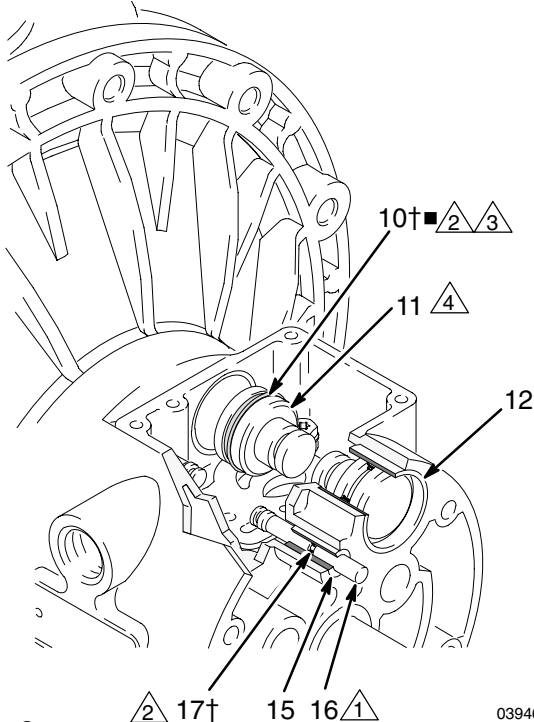

Fig. 8
4. Pull the two actuator pistons (11) out of the bearings (12). Remove the u-cup packings (10) from the pistons. Pull the pilot pins (16) out of the bearings (15). Remove the o-rings (17) from the pilot pins. See Fig. 8.
6. Inspect the bearings (12, 15) in place. See Fig. 8. The bearings are tapered and, if damaged, must be removed from the outside. This requires disassembly of the fluid section. See page 18.
4. Install an o-ring (17†■) on each pilot pin (16). Grease the pins and o-rings. Insert the pins into the bearings (15), **narrow** end first. See Fig. 8.
5. Install a u-cup packing (10†■) on each actuator piston (11), so the lips of the packings face the **narrow** end of the pistons. See Fig. 8.
6. Lubricate the u-cup packings (10†■) and actuator pistons (11). Insert the actuator pistons in the bearings (12), **wide** end first. Leave the narrow end of the pistons exposed. See Fig. 8.